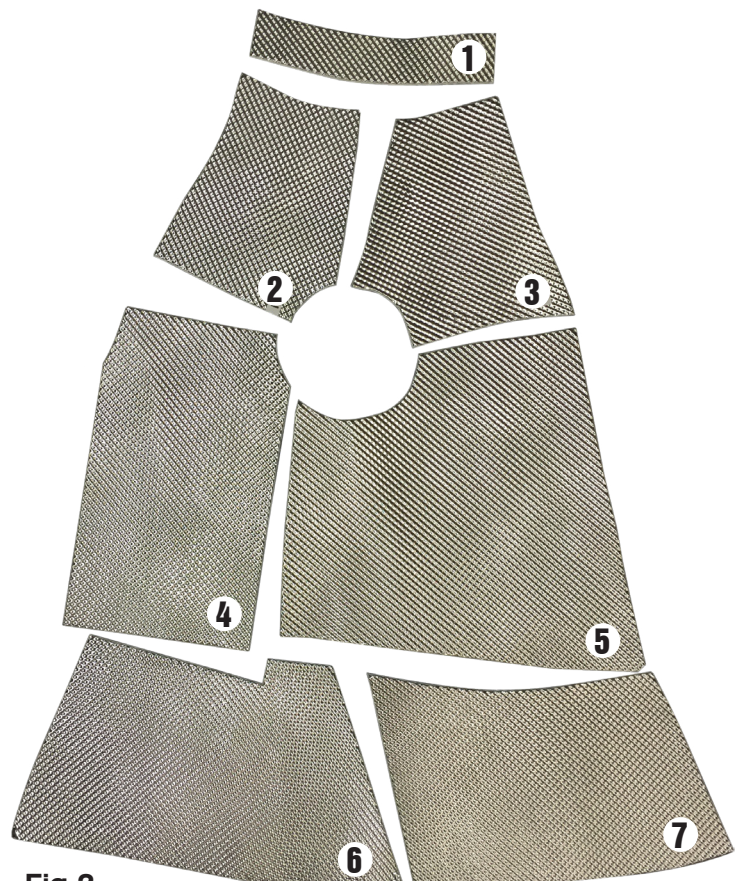

Fig 2
STEP 3. Lay out heat shields according to the numbers in **Fig 2**